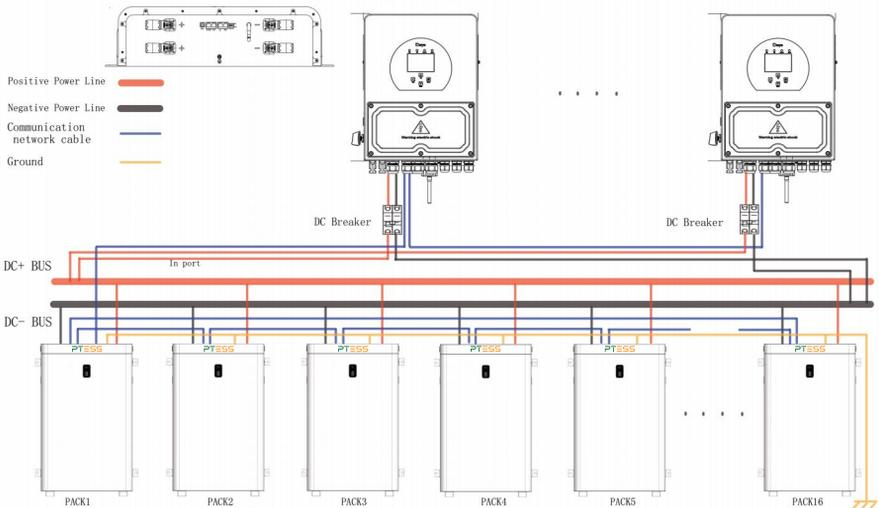

Figure 5-4: Multiple Batteries Connections
1.As shown in Figure 5-4, following the cable connection method of the single battery, connect the positive and negative cables between the Battery 1 and the busbar, Battery 2 and the busbar, and Battery N and the busbar respectively.
As shown in Figure 5-4, The CAN port realizes parallel operation and is connected using a standard Rj45 network cable. The automatic addressing output terminal of the upper level is connected to the automatic addressing input terminal of the lower level.